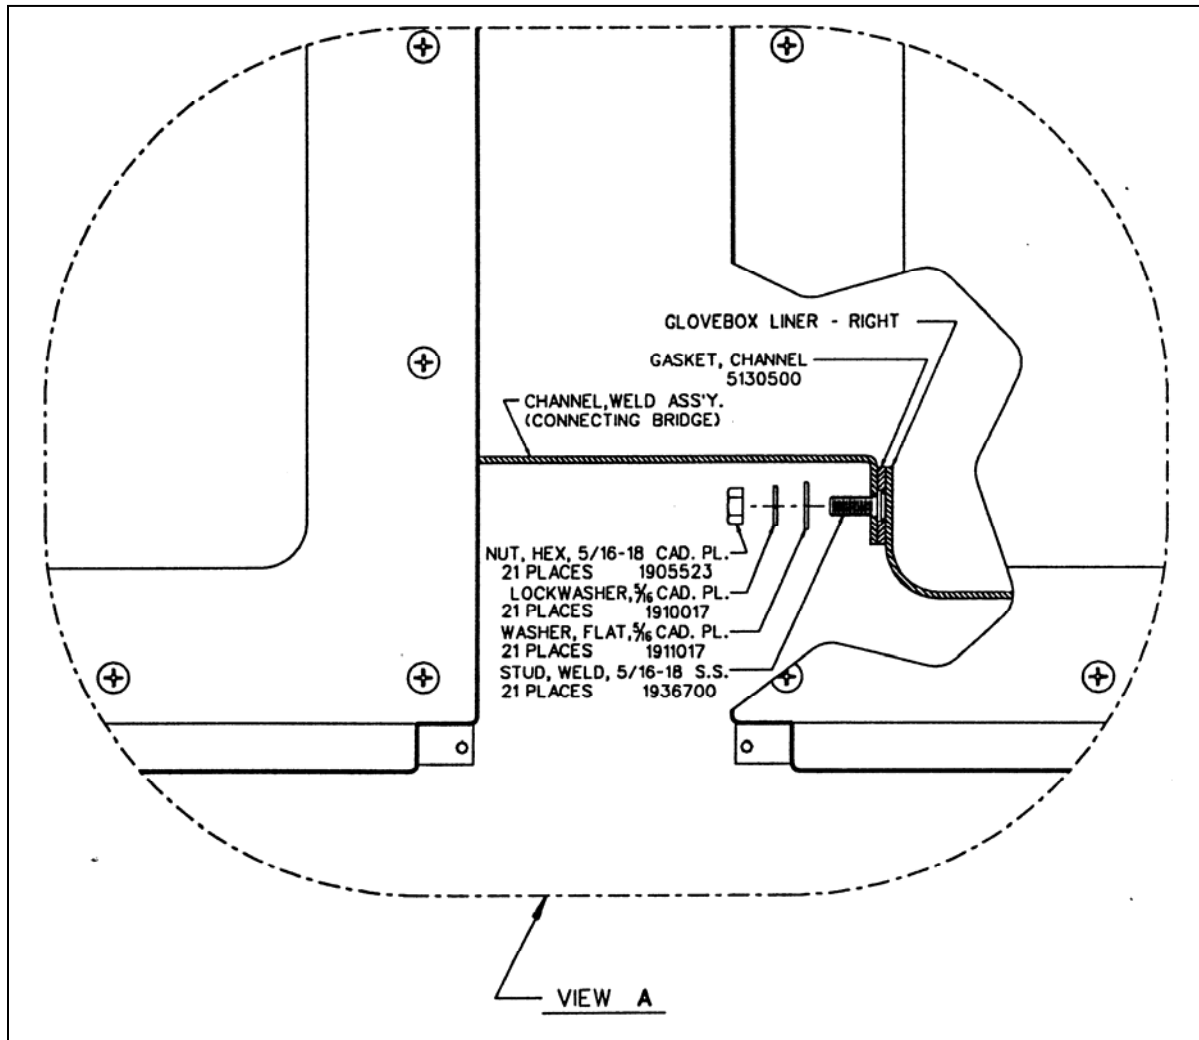

Figure 6A
Step 4: Assemble the flat washers, lockwashers, and 5/16-18 hex nuts onto the threaded stud (21 places) as shown in Figure 6A. Using a 1/2" socket (3/8" drive) with a 3" extension and a ratchet wrench, tighten the hex nuts evenly around the perimeter of the connecting bridge. **NOTE:** The threaded studs have flanged heads that control the amount of gasket compression. Tighten the nuts uniformly until the connecting bridge flange seats firmly against the flanged heads of the studs.